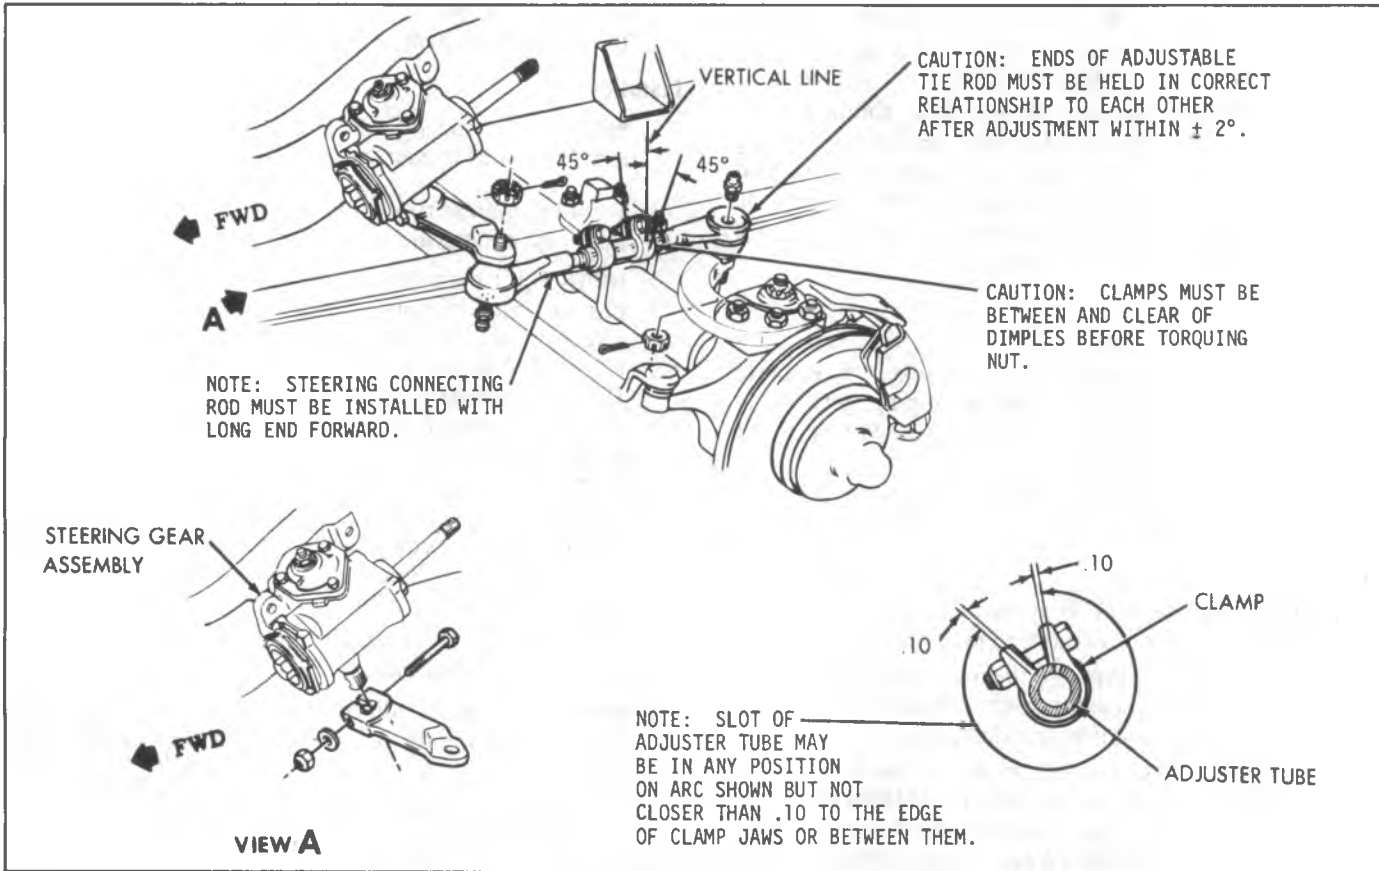

Fig. 3B1-11--Adjustable Connecting Rod Assembly-K Series
2. Install ball studs in steering arm and pitman arm. (Be sure to install the long end of the connecting rod assembly to the pitman arm, as shown in Fig. 3B1-5).
4. Install cotter pins and lubricate ball studs. For proper alignment and orientation of connecting rod clamps see Fig. 3B1-11.